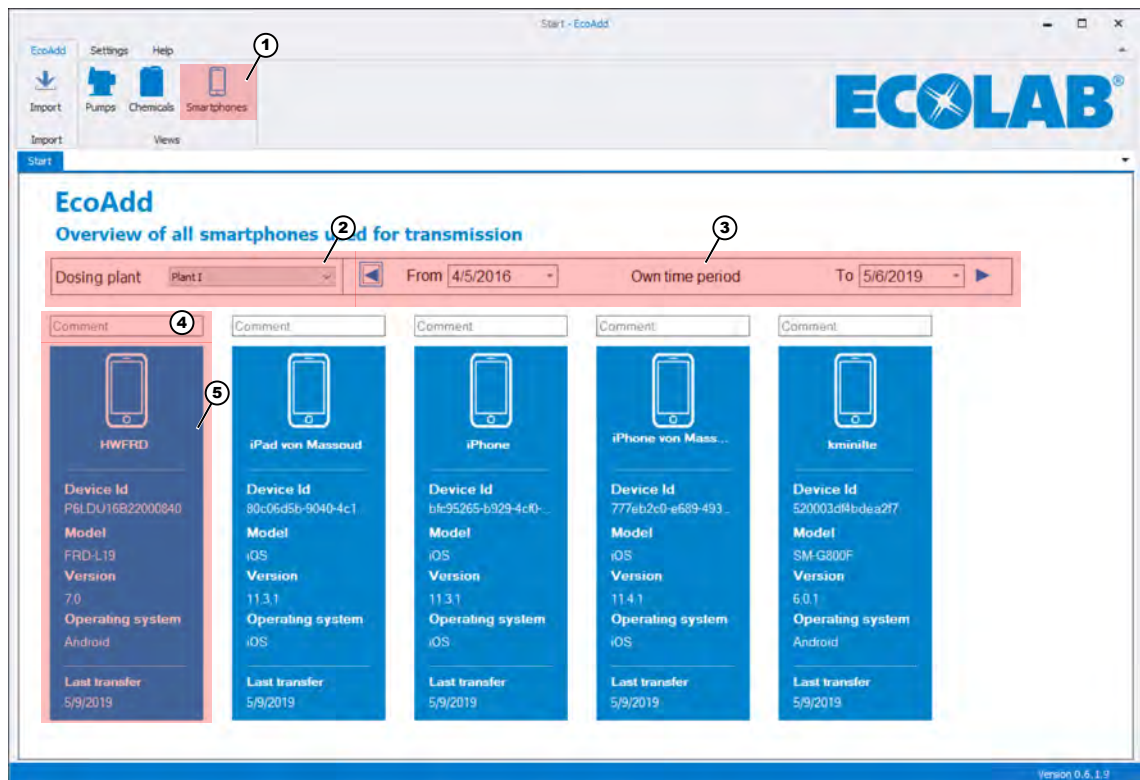

Fig. 38: Overview of all smartphones used for data transfer
Selecting the smartphone function (Fig. 38, item 1) calls up an overview of the smartphones used.
In the uppermost line, you can select the required *[Dosing plant]* (Fig. 38, item 2) and date period (Fig. 38, item 3).
The comments function (Fig. 38, item 4) allows you to enter more precise details about the relevant smartphones.
All smartphones that have ever been used to transfer data are listed (Fig. 38, item 5).
Selecting the required smartphone or smartphone overview (Fig. 38, item 5) displays the detailed data for the selected smart phones.